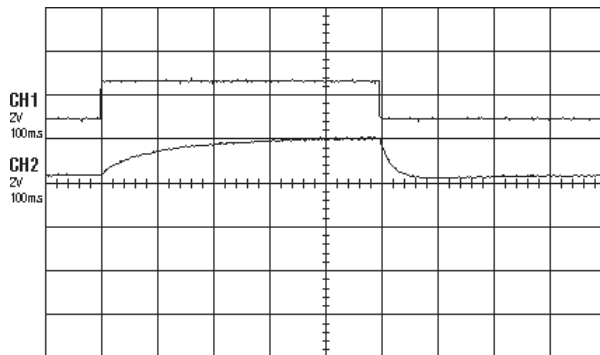

Figure 7.2.2: Flux Reference (CH1) and Tuning of Flux (CH2) Displaying
- Increase the **E02.00 - FlxP gain %** and **E02.01 - FlxI gain %** values until the Flux signal follows the Flux ref displayed (see figure 7.2.2).